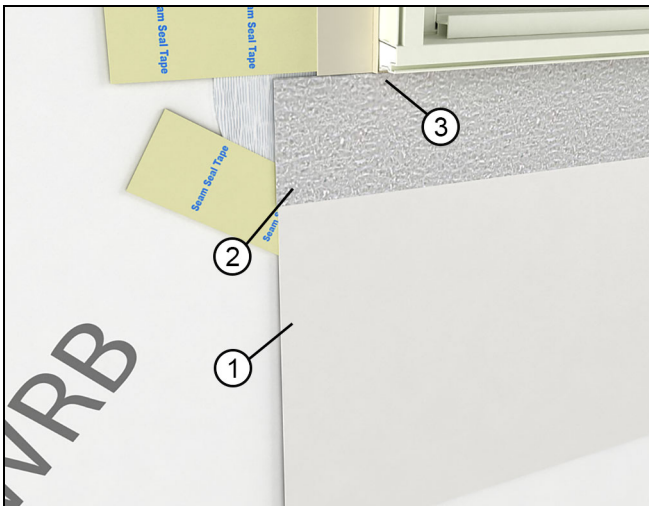

Figure 63
5. **OPTIONAL SKIRT:** Install an optional "skirt" in applications with exposure to wind driven rain/climate. Use flashing material or a 12" (305) strip of WRB and attach to the sill of the window with seam seal tape or flashing tape. See Figure 63.